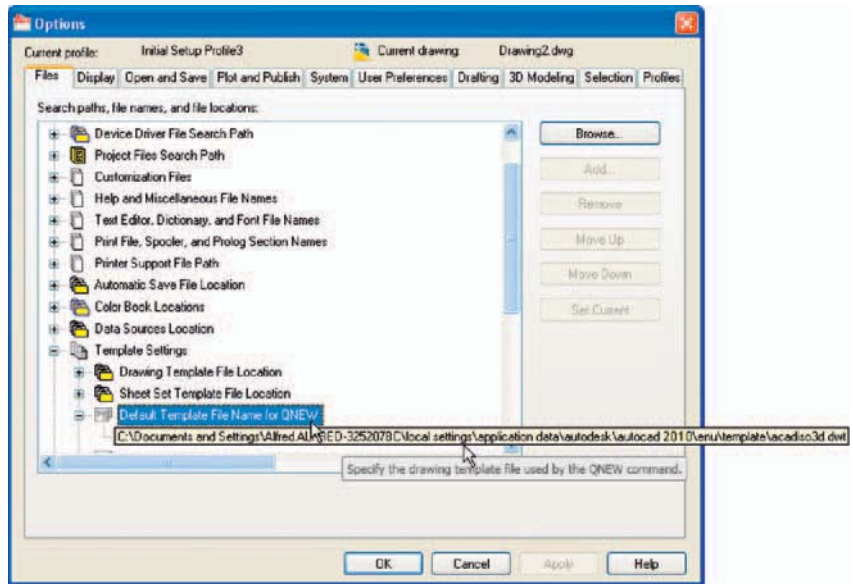

Fig. 15.4 Setting the default template setting in the **Options** dialog
7. In the **Options** dialog click the **Files** tab and click **Default Template File Name for QNEW** (Fig. 15.4) followed by a *double-click* on the file name which appears. This brings up the **Select Template** dialog, from which the **acadiso3d.dwt** can be selected. Now when AutoCAD 2010 is opened from the Windows desktop, the **acadiso3D.dwt** template will open.